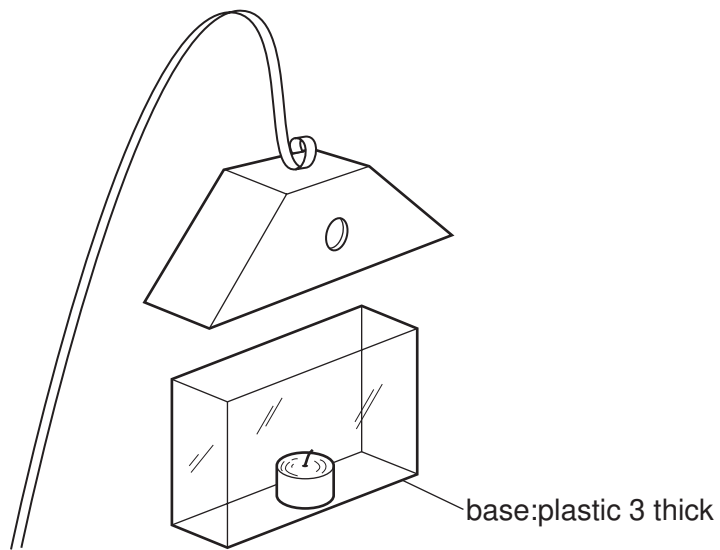

Fig. 11
- (f) Fig. 11 shows the lantern top separated from its base.